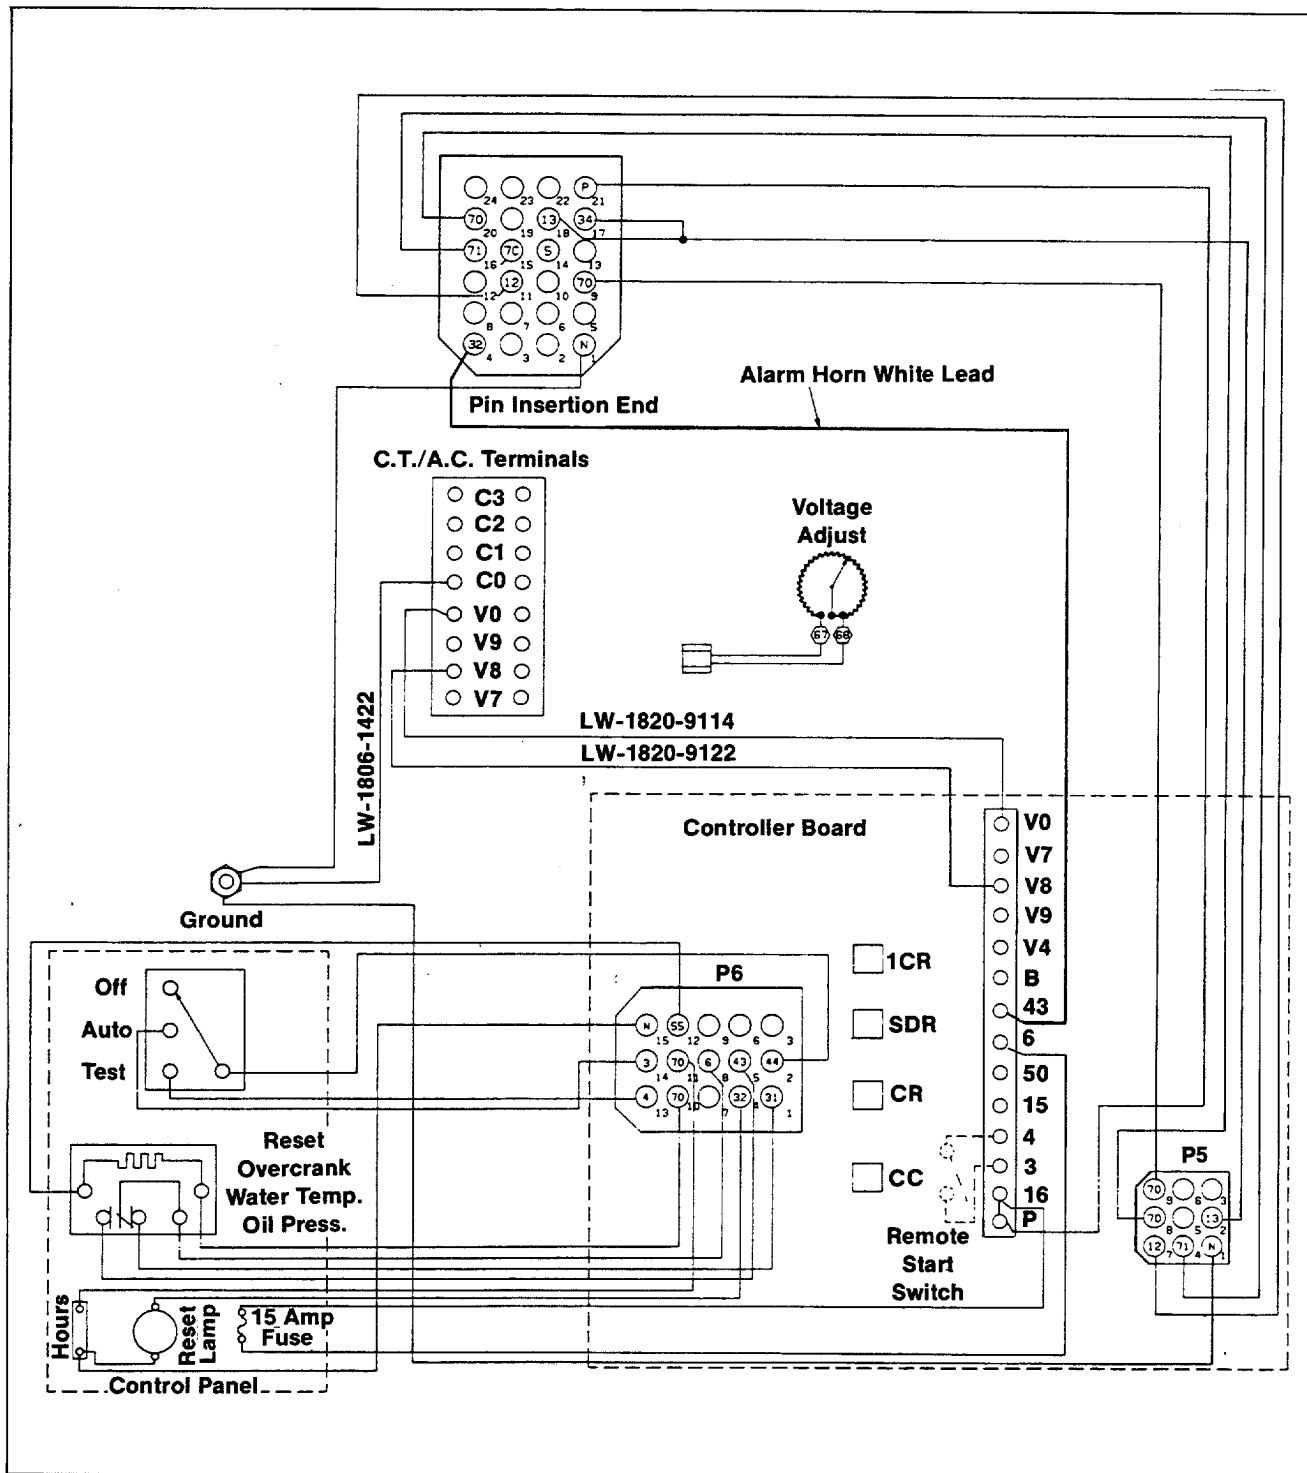

Figure 6. Relay Controller Wiring Diagram
- m. On relay models only, remove controller cover and connect white lead between terminal 43 on controller board terminal block and pin 4 of 24-pin plug. See Figure 6. Replace controller cover.